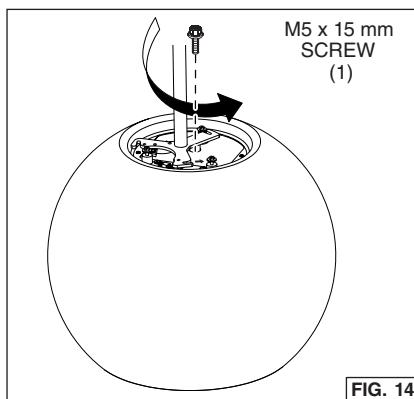
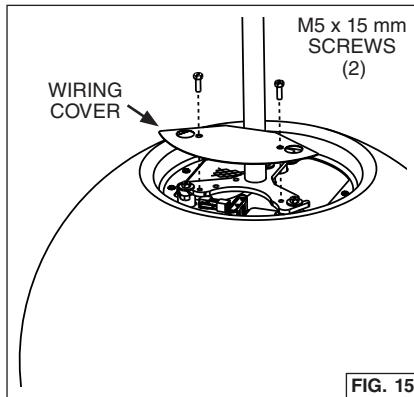

FIG. 14
FIG. 15
4. Turn body until (3) M5 screws engage with slots in mounting bracket. Tighten screws. Fig.14.
5. Install and fasten (1) M5 x 15 mm screw through the hole provided in one leg of the mounting bracket and into the range hood body.
8. Align wiring cover with holes on downrod mounting bracket. Fig.15.
9. Fasten with (2) M5 x 15 mm screws.